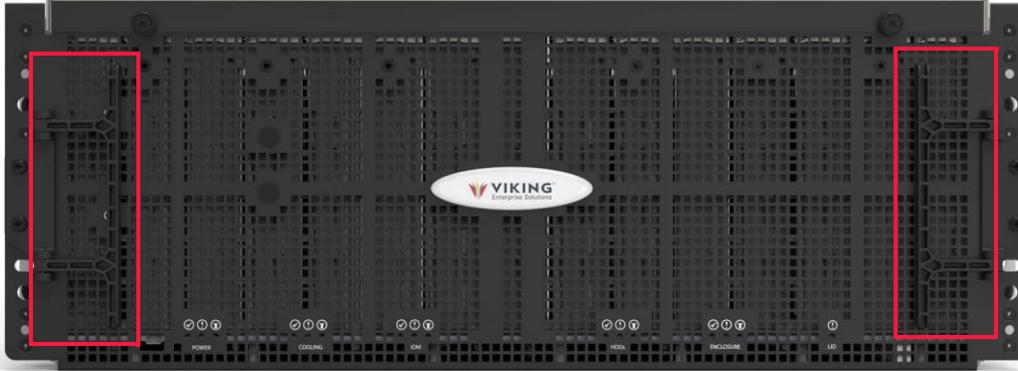

Figure D.8 Enclosure handles
- b. Fold out and grasp the two enclosure handles (see Figure D.8), one on each side of the front of the enclosure.